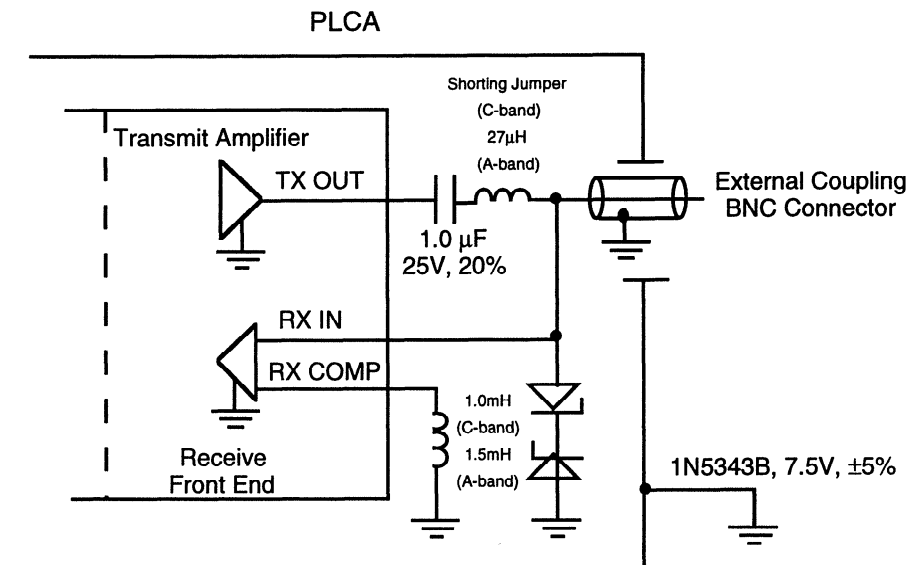

Figure A.1 PLCA -22 Analyzer External Coupling Functional Schematic
- 3 Connect the communications medium to the PLCA-22 analyzer's external coupling BNC connector using Echelon's 78200-Series Power Line Couplers or a user-supplied coupling circuit. A detailed description of the coupling circuit design is contained in the *LONWORKS PLT-21 Power Line Transceiver Module User's Guide* (the coupling circuits are identical for both the PLT-21 and PLT-22 transceivers) and *PLT-22 Power Line Transceiver Module User's Guide*. For reference, figure A.1 below shows the circuitry internal to the PLCA-22 analyzer that is connected to the external coupling BNC.